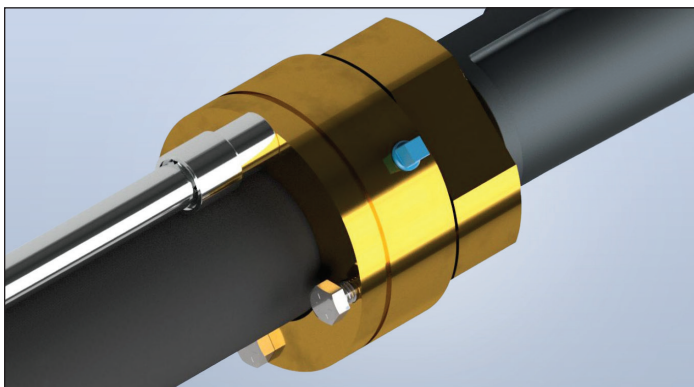

Figure: 1-12
14. Tighten all hex bolts in an alternating pattern to the torque value listed in Table 1 (Figure 1-12). Note that the **TracPipe PS-II** fitting is designed to form a leak tight seal on the stainless-steel tubing as the fitting is tightened. **DO NOT overtighten bolts.** When fully tightened, there should be a small and uniform gap around the circumference of the fitting between the Front Pipe Flange and the Flange Body.